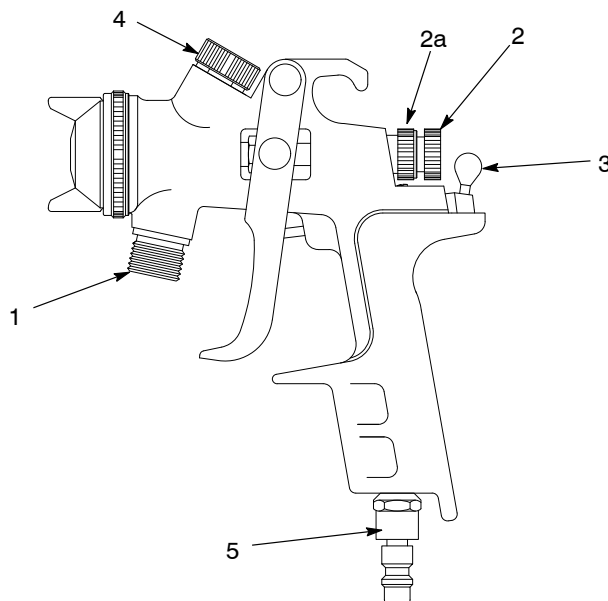

Figure 1 Trilogy Air Spray and LVLP Gun Components
See Figure 1.
See Figure 1. Use the atomizing air regulator (3) to adjust atomizing air flow.
See Figure 1. The material flow regulator (2) adjusts the material flow rate. Loosen the lock nut (2a) before turning the regulator.
See Figure 1. The fan pattern regulator (4) adjusts the shape of the spray pattern from flat to round.